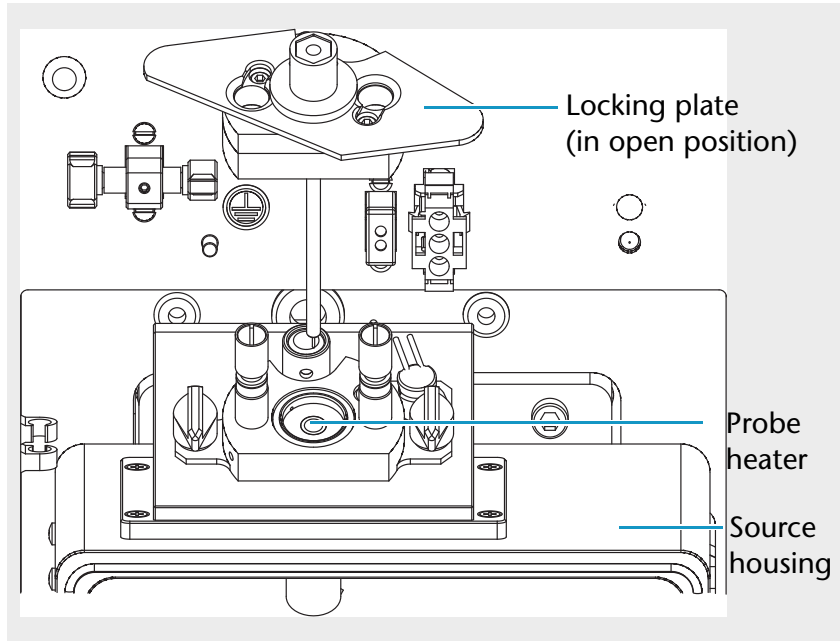

Fig. 34 Removing the ESI probe from the probe heater
5. Turn the locking plate clockwise to the open position, and then carefully remove the ESI probe from the probe heater. See Figure 34.